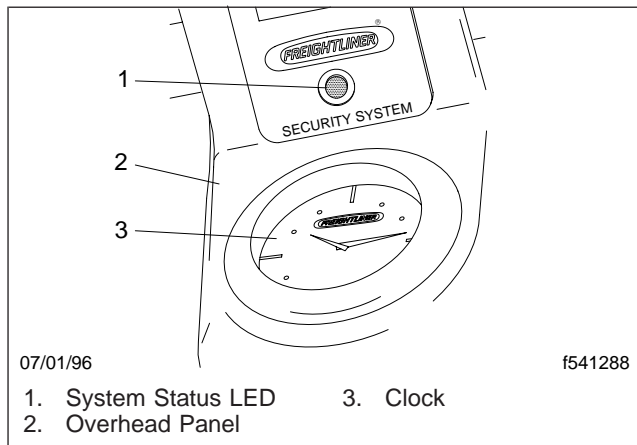

Fig. 3.10, Red System-Status LED
- A red system-status LED (light-emitting diode) mounted on the overhead panel above the clock. The LED flashes slow or fast to indicate what state the system is in: armed, alert, alarmed, or violated. It is off when the system is disarmed. See Fig. 3.10.
2. Now turn the ignition keyswitch on. Note that the system LED illuminates continuously. See Fig. 3.10. This indicates that the ECM is ready to begin the learning sequence.